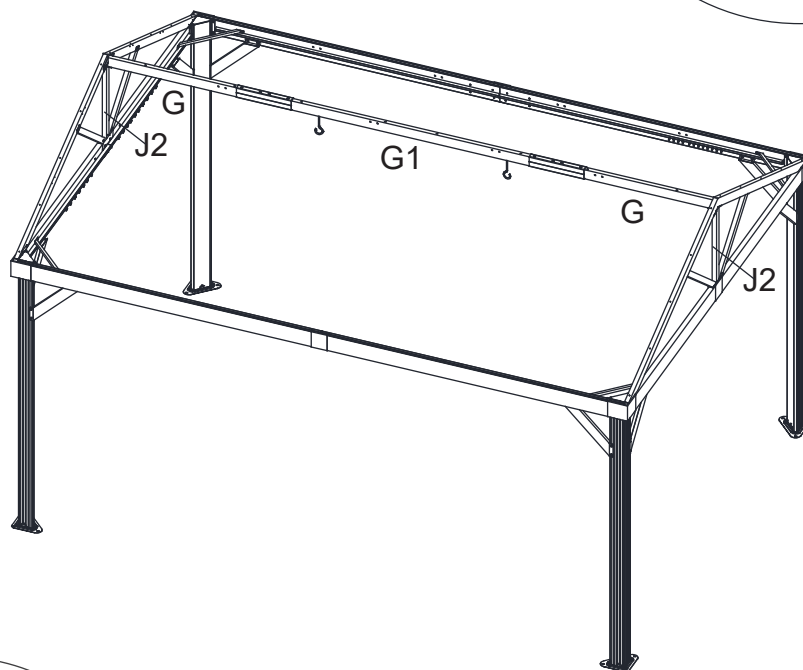

Figure 8.2
8.2 Connect the Roof Vent Hook (W) to the Middle Support bar (G1). See Figure 8.2.